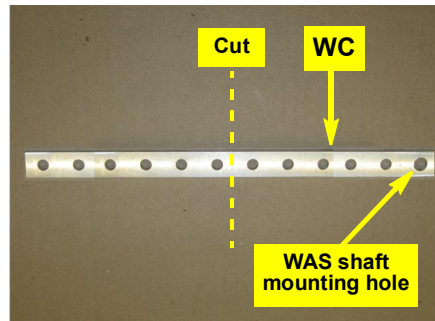

Figure 1b: WAS arm prepared
- b. Cut six holes off WAS arm **WC** at the opposite end from the WAS shaft mounting hole (Figure 1b).